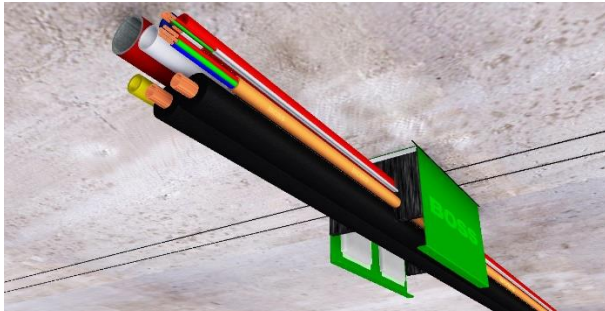

Figure 3
4. Install the services through the BOSS FyreBox, ensuring that each service sits at least 20mm above the lid flanges. This will allow adequate room to install the lid later in the process (Figure 3). The optional Service Support Trapeze is available to help with heavy services or a fully-loaded BOSS FyreBox. To install the trapeze, simply insert the threaded hanging rods through the bar and screw into the threaded fixings in the top of the BOSS FyreBox. This will help maintain clearance from the bottom to allow for easy lid installation.